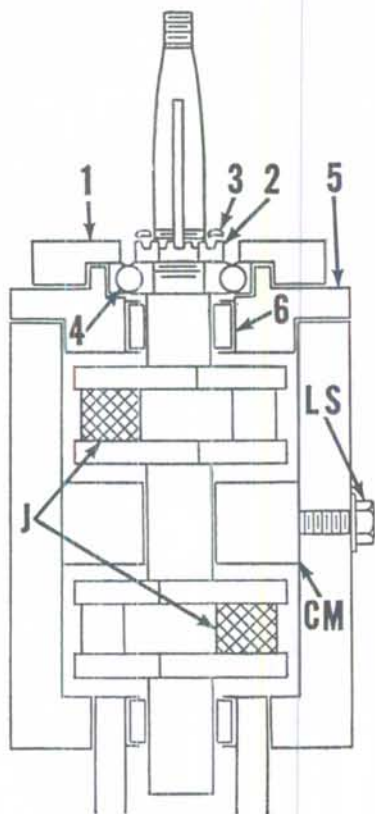

Fig. M1-10—Schematic view of crankcase showing method of removing and installing crankshaft. Refer to text.
Remove the center main bearing locking screw from side of crankcase and scribe a line across center main bearing and center bridge of crankcase to aid in alignment of bearing when reinstalling. Refer to Fig. M1-10. Place spacers or jacks (J) between counterweights of crankshaft to prevent springing or breakage of shaft. Jacks may be fashioned of brass, hardwood blocks, or a short bolt and nut may be used. Use the Mercury powerhead stand as an arbor, and press the crankshaft and center main bearing out the top of the crankcase assembly. Inspect and overhaul the power head components as outlined in the appropriate following paragraphs.
Make sure scribe lines on center main bearing and crankcase are aligned and press the crankshaft assembly in place, using the jacks (J—Fig. M1-10), until the threaded lockscrew hole in center main bearing is aligned with the hole in crankcase. Install and tighten the locking screw (LS). Reinstall upper bearing housing (5), bearing (4) and the crankshaft nut (2). Tighten nut until the clearance between center main bearing and crankshaft is equal at top and bottom; then align one castellation of nut with the crankshaft key slot, and install key with lower end locking the nut in position as shown.